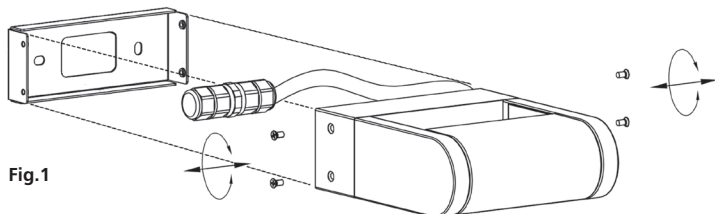

Fig.1
1. Remove the mounting bracket from the main body of the fitting by loosening the x4 retaining screws on the side of the body (See Fig.1)
4. Slide the main body of the fitting back onto the mounting bracket, and ensuring there are no trapped cables fix the body to the mounting bracket by tightening the x4 retaining screws (See Fig.1)